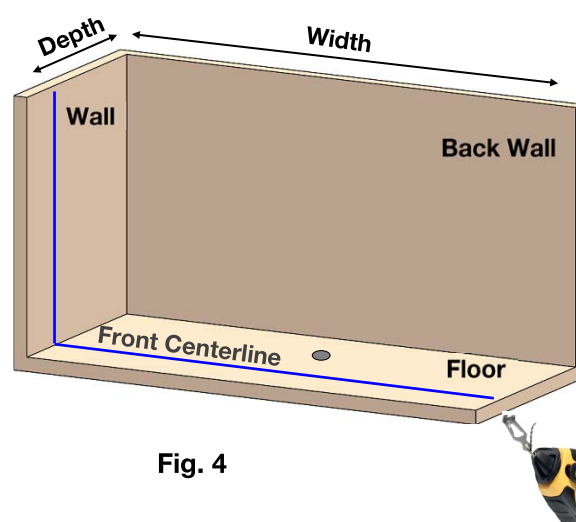

Fig. 4
- B. Set the laser at the front centerline. Place the chalk line over the laser, mark wall and floor. The chalk line will be used as a guide to set front extrusions. **Fig. 4** If chalk can not be used to mark wall and floor, use a laser device.